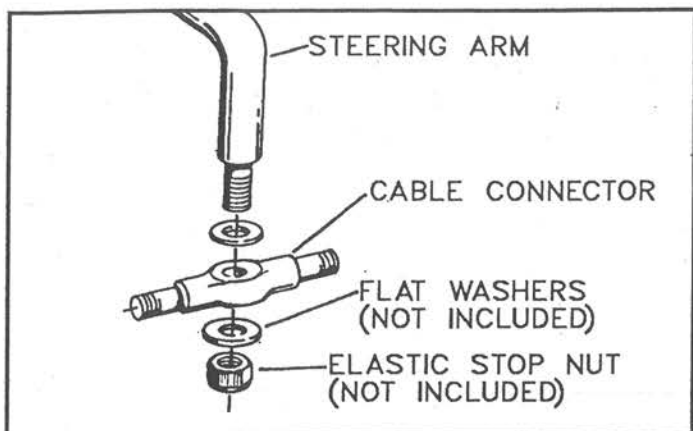

FIGURE 3 CABLE CONNECTOR INSTALLATION
B. Assemble the *Cable Connector* onto the *Steering Arm*, as shown in **Figure 3**.